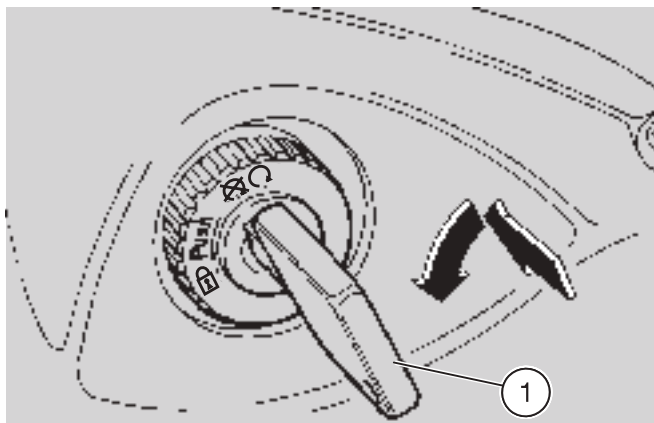

Fig. 8
The key (1-Fig. 8) operates the ignition switch/steering lock, the battery/tool kit compartment and the saddle lock. Two keys are supplied together with the vehicle (one spare key).
## STEERING LOCK (Fig. 8)